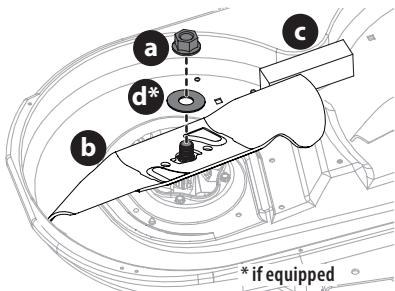

Figure 46
2. Place a block of wood (c) between the deck housing and the cutting edge of the blade (b) to help in breaking loose the hex nut (a) and washer (d)* securing the blade (b). Use a 15/16 inch wrench to loosen the hex nut (a) and washer (d)* (Figure 46).
3. When re-installing blades, be sure of the following (Figure 46 on page 31):